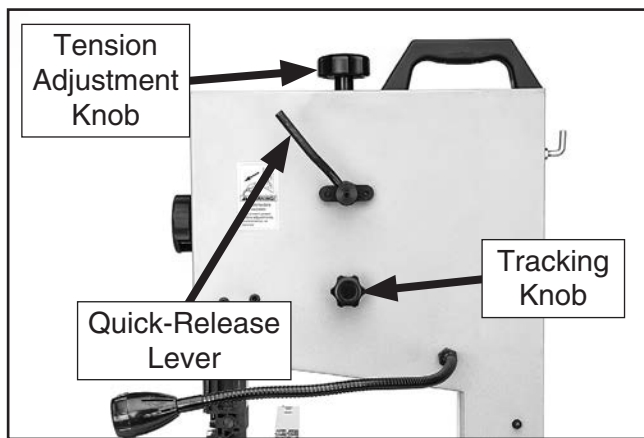

Figure 19. Blade tension and tracking controls.
3. Move quick-release lever all the way clockwise (as viewed from the rear of the machine) to apply tension to blade (see **Figure 19**).
7. Spin upper wheel with one hand and slowly adjust tracking knob (see **Figure 19**) with other hand until blade consistently tracks in center of wheel.